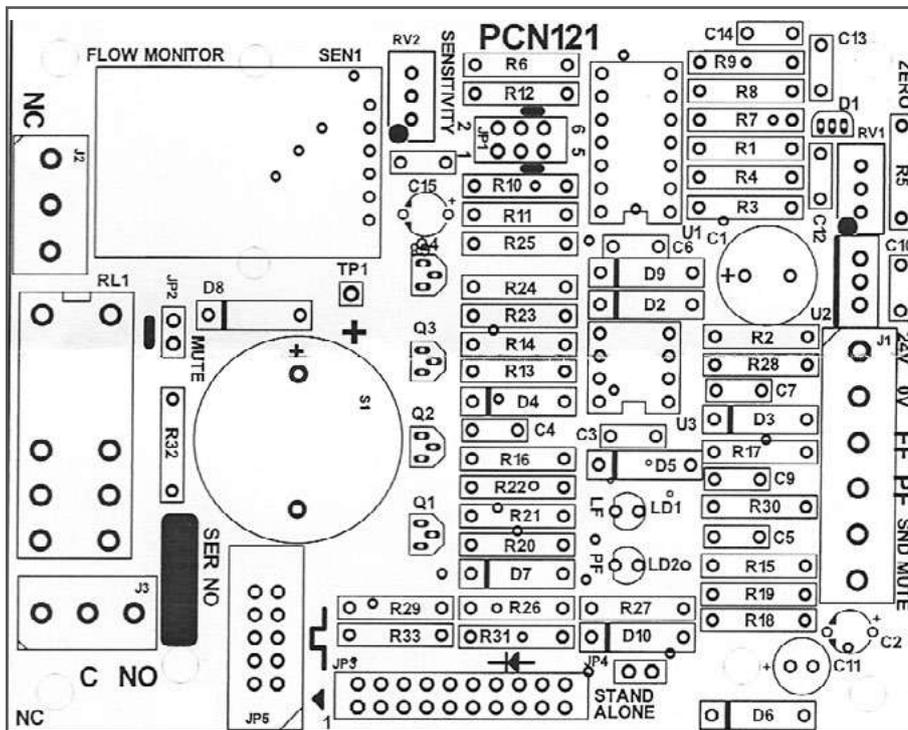

Fig 1C
- 11 Flow monitor – see Fig. 1C